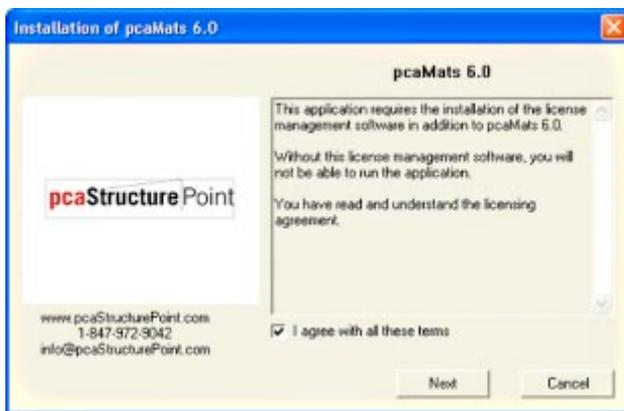

Figure 1-1 — Beginning of the installation
3. The installation process is started by displaying the following window (Figure 1-1). Please read all the information, click on the check box to confirm that you have read and agreed with it. Then press the NEXT button. This will continue the installation process by installing license manager, an evaluation license, and the application software.